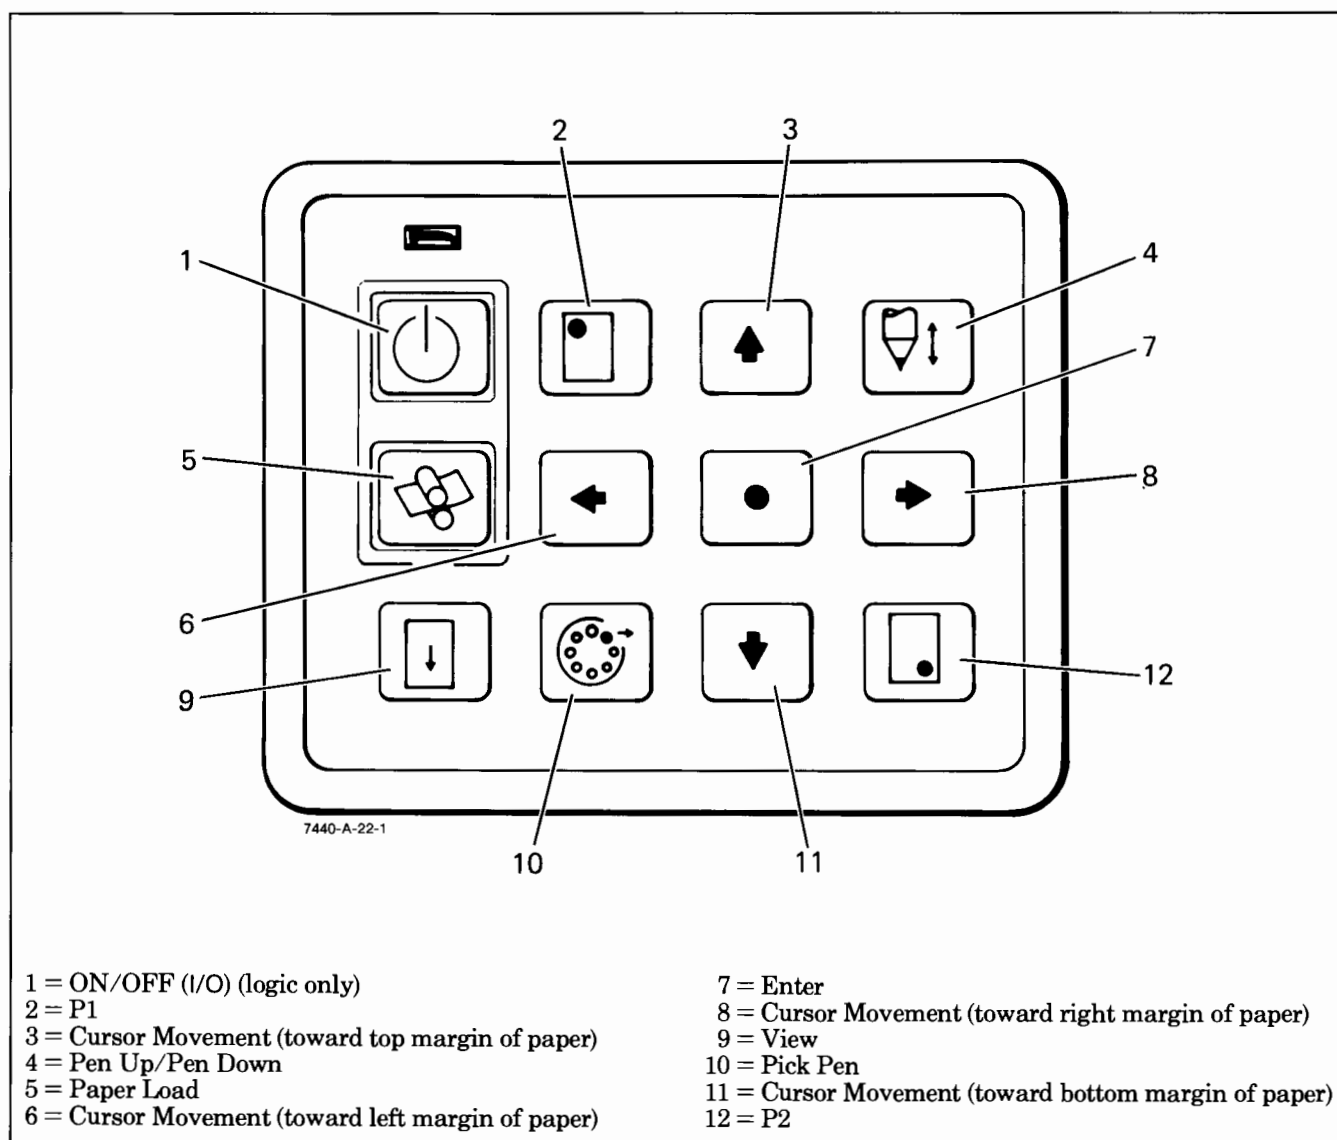

Figure 3-1. Front Panel Key Switches
- g. Press the logic ON/OFF (I/O) key on the plotter front panel. See Figure 3-1. The front panel LED will light.
- i. Press the PAPER LOAD key. See Figure 3-1.
3-21. There are twelve key switches on the front panel. See Figure 3-1 for a drawing of the front panel key switches with a brief description of switch functions.